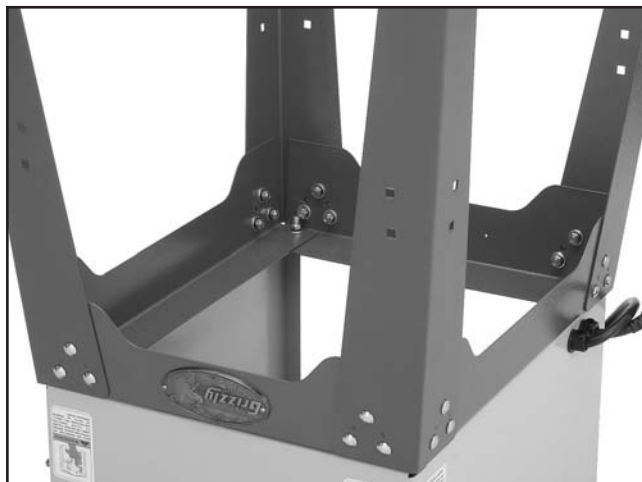

Figure 8. Leg assembly installation.
3. Secure each leg to the outside of the L supports as shown in **Figure 8** with 6 carriage bolts, 6 flat washers, 6 lock washers, and 6 hex nuts per leg.